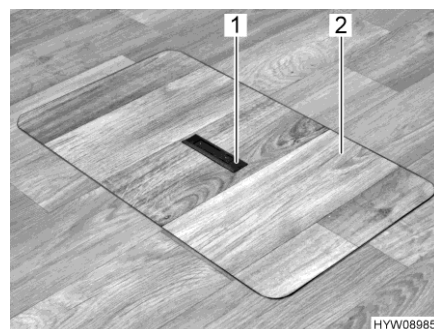
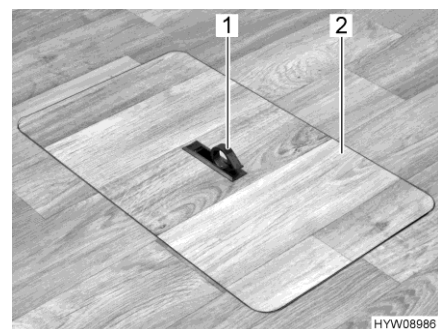

Fig. 37 Service cover (handle recessed)
Fig. 38 Service cover (handle swivelled out)
- Push one side of the grip plate (Fig. 37,1) downwards. The handle (Fig. 38,1) swivels upwards.
- Remove the service cover (Fig. 38,2) upwards.
- Insert the service cover (Fig. 38,2) in the frame in the floor.